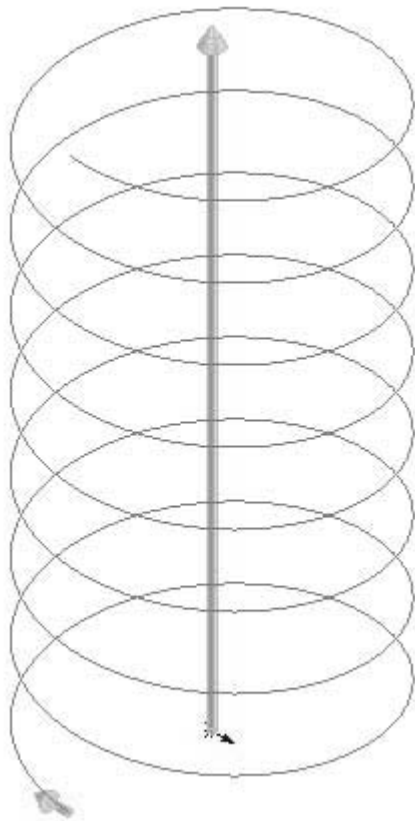

Figure 1 - Drawing a Helical curve
3. Enter 50 in the Pitch edit box, 8 in the Revolutions edit box, and 0 in the Start Angle edit box of the Parameter rollout. Change the current view to the isometric view; the preview of the helix is displayed, as shown in Figure 1.